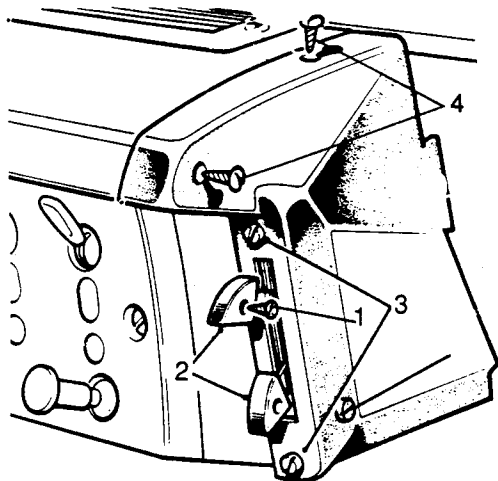

Fig N3.1
- (1) Refer to Fig N3.1. Remove the fixings (1) and withdraw the finger grips (2).
- (2) Remove the fixings, control lever assembly to end panel (3).
- (3) Withdraw the instrument panel clear of the dash (see Sub-section O5, Chapter 27).
- (4) Remove the end panel fixings (4). The lower screw at the side has a loose nut behind the instrument panel.
- (4) Slacken the grub screws and adjust the cable inners if necessary until the water valve and flaps operate over the correct range. Tighten the grub screws.
- (5) Offer up the control assembly to the end plate and secure with the two fixing screws ((3) on Fig N3.1).
- (6) Replace the end panel and secure with the three screws. The lower screw has a loose nut behind the dash.
- (7) Replace the finger grips: HOT/COLD to the left hand lever and DEF/CAR to the right hand lever.
- (8) Refit the instrument panel into the dash.